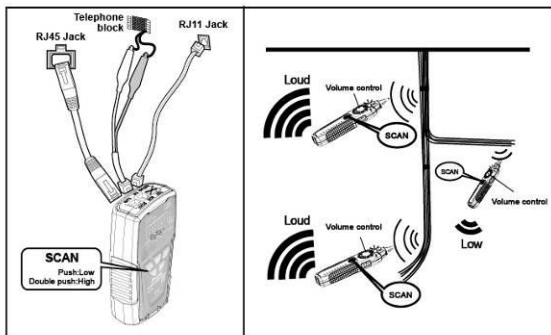

Figure 2 Isolating Cable
- If you cannot locate the MT-7028 signal on 2-conductor cables, the cable may be shorted or opened. Use the Continuity Test (Fig. 2) to check for shorts or opens on coax and non-terminated cables.